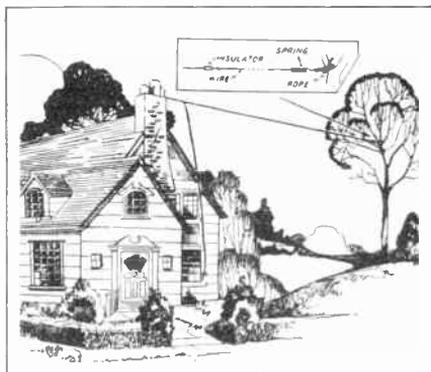

FIG. 1
1. Imagine, if you will, a tall tree seventy-five to one hundred feet away from the house. To give you a better view of the situation, look at Fig. 1. Notice that the chimney has several small smokestacks. I would loop a No. 14 galvanized iron wire around one of the stacks.
Now let us consider the anchoring of the far end of the straight-away to a tree. The insert in Fig. 1 shows you how to do this. While on the ground, prepare the section shown in the insert. You will need an insulator, an antenna coil spring which can be purchased from any radio supply house, some galvanized wire and a rope. Pull the aerial wire through the insulator and loop the wire firmly in place,
**Signal Circuits.** As a general rule, the signal circuits in a universal T.R.F. receiver are extremely simple; the typical circuit has one R.F. amplifier stage, a detector stage, and an audio output stage, as shown in Fig. 1. The R.F. amplifier tube is usually a super-control pentode such as the 78, 6D6 or 6K7, having a 6.3 volt filament. There are two tuned circuits, controlled by a two-gang variable condenser; one couples the antenna to the input of the R.F. stage, and the other couples the R.F. stage to the detector. The volume control circuit simultaneously varies the antenna input voltage and the gain of the R.F. tube. A regular R.F. pentode tube such as the 6C6, 77, or 6J7 is used in the high-gain detector circuit. The detector feeds through resistance-capacitance coupling into a high-gain power audio
Two distinct types of grounding systems are employed in universal receivers. In the type represented by Fig. 1, the chassis is not an electrical part of the circuit; the ground symbols in the diagram simply indicate a connection to a common wire which serves as the return path for signal currents. In the second type of grounding system, the chassis is the common return path for signal currents. One side of the power line is directly connected to the chassis, so for one position of the power cord plug, the chassis
**FIG. 1.** Signal circuits of a typical universal T.R.F. receiver. Alignment simply involves tuning in station, then adjusting trimmer condensers C1 and C2 (mounted on the gang tuning condenser) for maximum output volume.